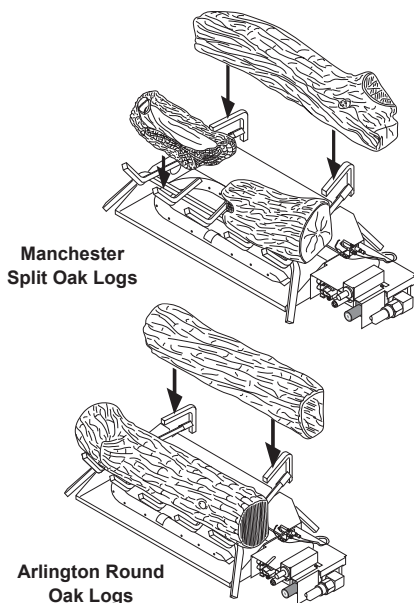

Figure 15 - Installing Front and Back Logs (Number and style of your logs may vary)
3. Place back log on grate onto grate steps (see Figure 15, page 11).
4. Place front log(s) on grate and slide forward against front bars on grate (see Figure 15, page 11).